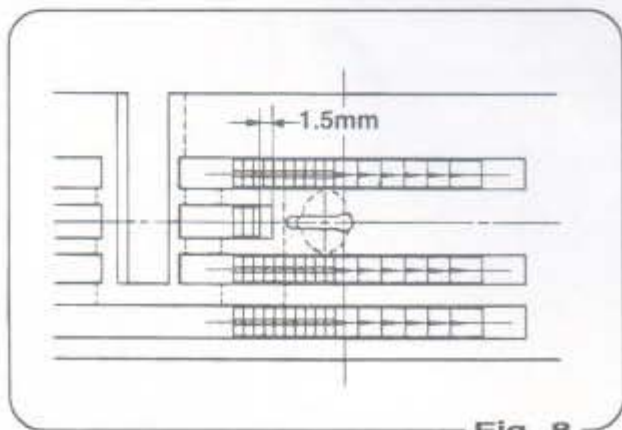

Fig. 8
- a) Ensure that the feed dog does not touch the throat plate as it passes through. A clearance of 1.5mm should be seen between the middle teeth of the front feed dog and the throat plate as indicated (Fig.8).
送料齿最前进时，针板沟和送料齿间隙应有1.5mm(图8)，请放松送机构根基(#304201)螺钉，而调整其间隙。